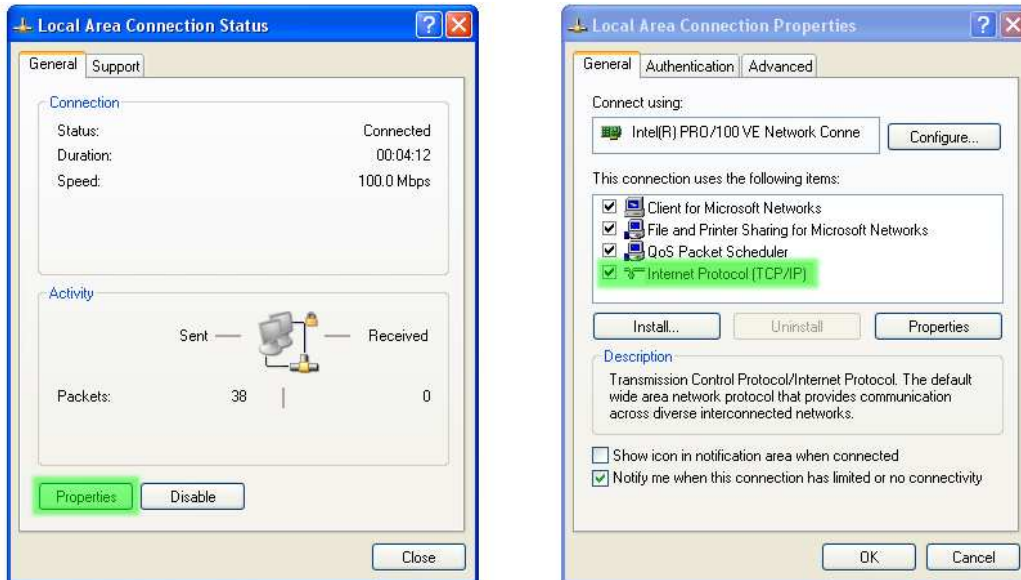

Figure 11: Local Area Connection Status and Properties dialog boxes.
4. The *Local Area Connection Status* dialog box will be displayed, as shown on the left of Figure 11, click the *Properties* button.
5. The Local Area Connection Properties dialog box, as shown on the right of Figure 11, will be displayed. Click on *Internet Protocol (TCP/IP)* to highlight it and then click the *Properties* button.